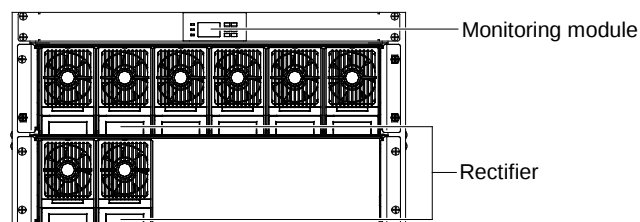

Figure 2-4 Mounted rectifiers
2. Put the rectifier onto the guide rail. See Figure 2-4 for installation positions. Push the rectifier completely into the cabinet. Push the handle into the front panel to pop out the positioning pin and lock the rectifier to the cabinet. The mounted rectifiers are shown in the following figure.
All the signal cables are connected to M500S monitoring module. The position of the M500S monitoring module is shown in Figure 2-4.